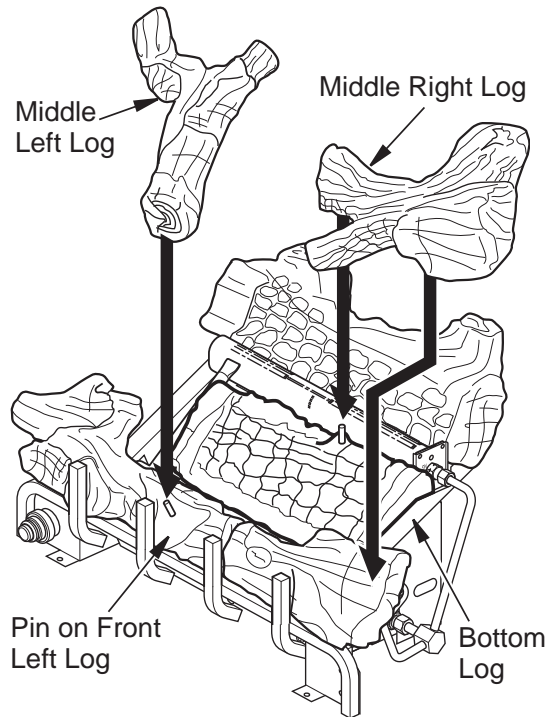

Figure 20 - Installing Log Set
5. Place middle right log over front right and bottom logs as shown in **Figure 20**. Be sure hole in middle right log seats over pin in bottom log.
6. Place middle left log over front left and bottom logs as show in **Figure 20**. Be sure hole in middle left log seats over pin in front left log.